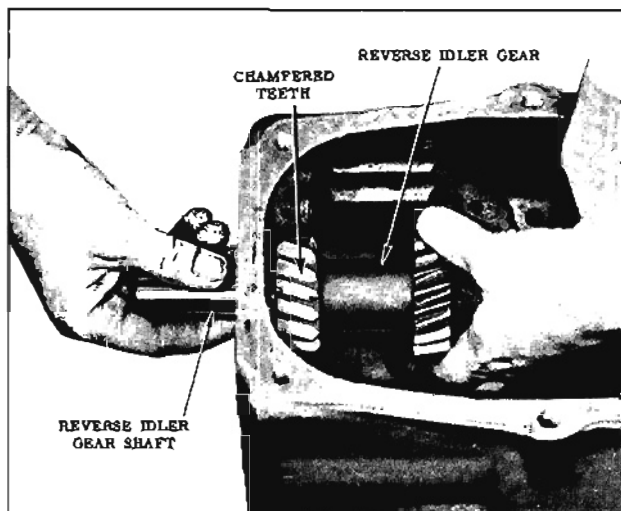

Fig. 7-19 Removing Reverse Idler Gear Shaft
25. Remove the reverse idler gear shaft, gear, and thrust washer from the case. (Fig. 7-19)